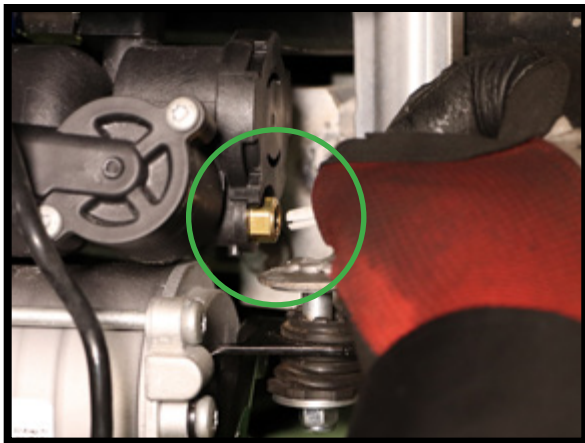

FIGURE 22
6. REMOVE THE SHIPPING PIN FROM THE COMPRESSOR AND INSERT THE AIR LINE. PRESS THE LINE IN UNTIL IT IS FIRMLY SEATED. (FIGURES 22, 23, 24)